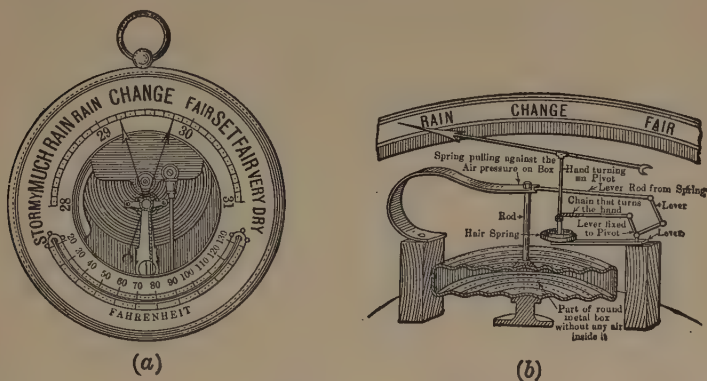

FIG. 80.—Aneroid barometer. Section of the same showing how motion of the side of the box causes pointer to move over dial.
**The aneroid barometer.** The mercurial barometer is the standard weather instrument; but for many purposes, as in making a continuous record of the atmospheric pressure, in measuring heights of mountains, in getting data for contour maps, and in registering the elevation of an airplane, a lighter and more compact instrument, such as the aneroid barometer, Fig. 80, is better. The aneroid barometer accomplishes the same purpose as the mercurial barometer, but it works on a somewhat different principle. The essential part is a thin metal box, with corrugated sides, from which the air has been partly removed. This leaves less air pressure inside than outside the box and, as a result, the sides are forced inward. An increase in atmospheric pressure causes them to move still further inward, but upon a decrease in pressure the sides spring out. The actual amount of movement of the sides of the box is